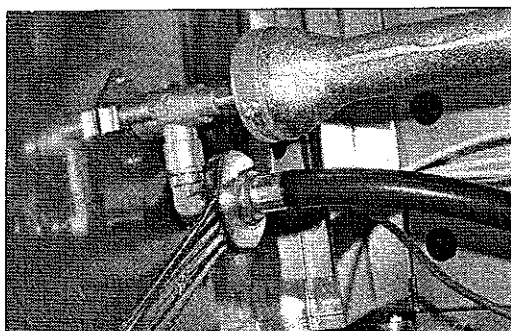

Fig 1
1. Use a 3/4" wrench disconnect the hose from the side burner valve and pull the hose back into the cart. (See Fig. 1)
(See Fig. 1 on page 2).